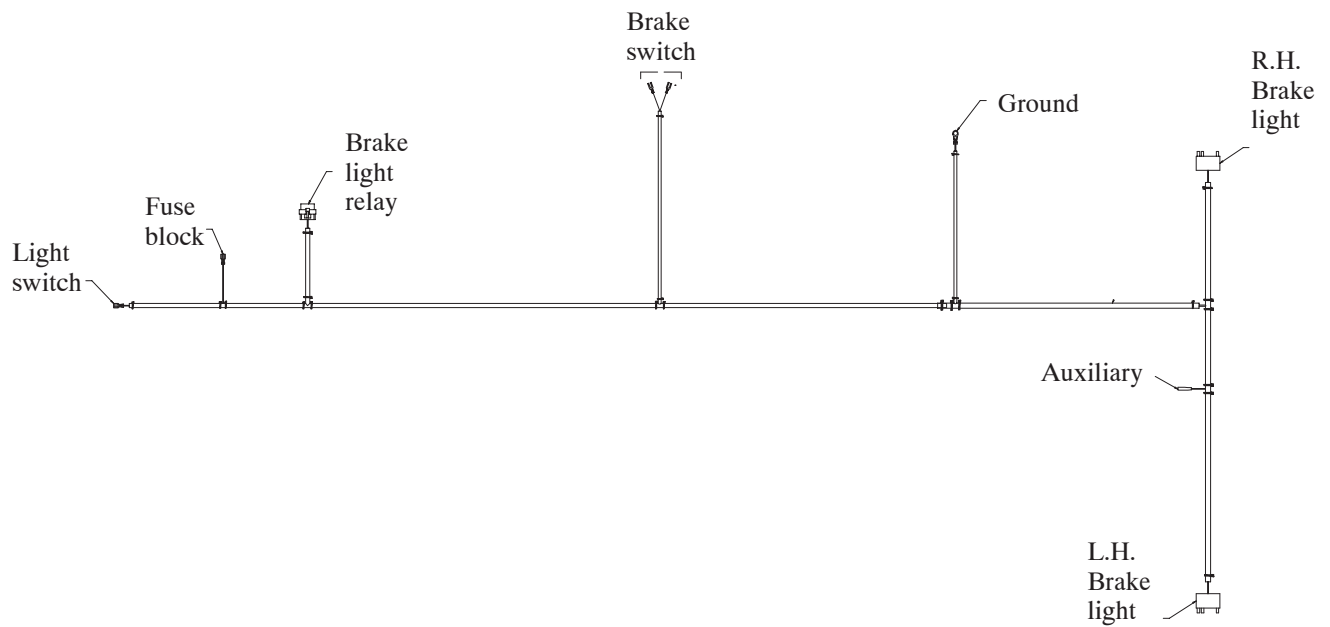

Figure 6
1. Connect the right hand brake light harness connector to the right hand taillight assembly connector (Fig. 6).
2. Connect the left hand brake light harness connector to the left hand taillight assembly connector (Fig. 6).
Note: An auxiliary lead with a connector is included on the harness for connection to a license plate light, if required (Fig. 6).
7. Using the bolt, secure the wire harness ground wire ring terminal (Fig. 6) and the battery cable to the engine.
9. Connect the (2) fork terminals from the wire harness (Fig. 6) to the mounting screws on the brake switch. Tighten the screws.
11. Plug the wire harness connector into the brake light relay (Fig. 6).